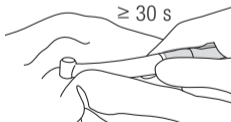

Figure 6.
- 3 Wipe the exterior of the handpiece and motor clean using a cloth dampened with disinfectant alcohol (Figure 6.). When using disinfectant, follow the instructions given by the manufacturer of the disinfectant.